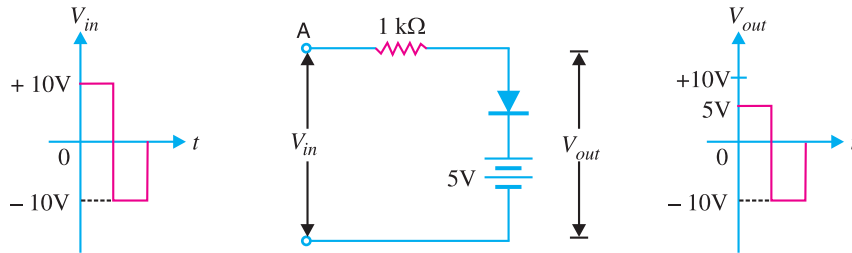

Fig. 18.40
**Example 18.14.** For the input waveform to the clipping circuit in Fig. 18.40, find the output voltage waveform.
output voltage stays at 5V. For all negative voltages at A and positive voltages less than 5V, the diode is reverse biased. When reverse biased, the diode acts like an open circuit and  $V_{out} = V_{in}$ . Thus circuit in Fig. 18.40 is an adjustable positive peak clipper that clips all positive peaks greater than battery voltage (i.e. 5V).